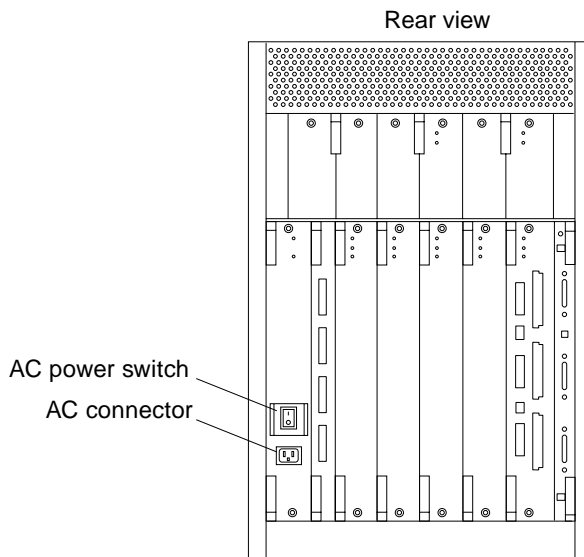

FIGURE 11-2 AC Power Switch and AC Connector
This switch is on the peripheral power supply/AC that is installed in the far left corner (FIGURE 11-2).
3. **Turn on the AC power sequencer power switch (FIGURE 11-2).**